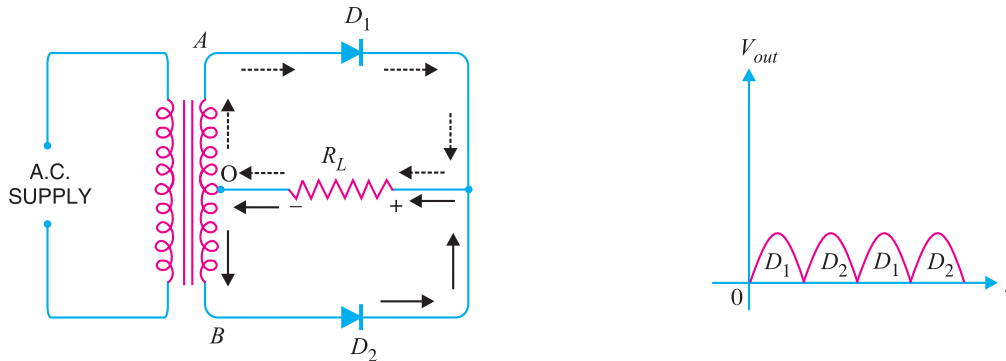

Fig. 6.24
The circuit employs two diodes D_1 and D_2 as shown in Fig. 6.24. A centre tapped secondary winding AB is used with two diodes connected so that each uses one half-cycle of input a.c. voltage. In other words, diode D_1 utilises the a.c. voltage appearing across the upper half (OA) of secondary winding for rectification while diode D_2 uses the lower half winding OB .
Operation. During the positive half-cycle of secondary voltage, the end A of the secondary winding becomes positive and end B negative. This makes the diode D_1 forward biased and diode D_2 reverse biased. Therefore, diode D_1 conducts while diode D_2 does not. The conventional current flow is through diode D_1 , load resistor R_L and the upper half of secondary winding as shown by the dotted arrows. During the negative half-cycle, end A of the secondary winding becomes negative and end B positive. Therefore, diode D_2 conducts while diode D_1 does not. The conventional current flow is through diode D_2 , load R_L and lower half winding as shown by solid arrows. Referring to Fig. 6.24, it may be seen that current in the load R_L is *in the same direction* for both half-cycles of input a.c. voltage. Therefore, d.c. is obtained across the load R_L . Also, the polarities of the d.c. output across the load should be noted.